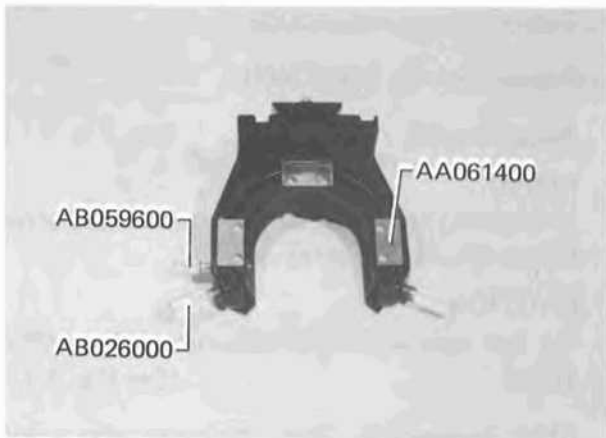

Fig. 7-4
7-2-3 Detach three Plates AB061400 by removing six Screws 3PUK2x4SA. (See Fig. 7-4.)
- 8-1-5 Attach three Plates AB061400 by tightening six Screws 3PUK3x4SA. (See Fig. 7-4.)
- 8-1-6 After applying a small amount of Grease OT2006 to the thread, assemble Centering Knob AB026000 in position. (See Fig. 7-4.)
- 8-1-7 After applying a small amount of Grease OT2006 to the thread, assemble Clamping Knob AB059600 in position. (See Fig. 7-4.)